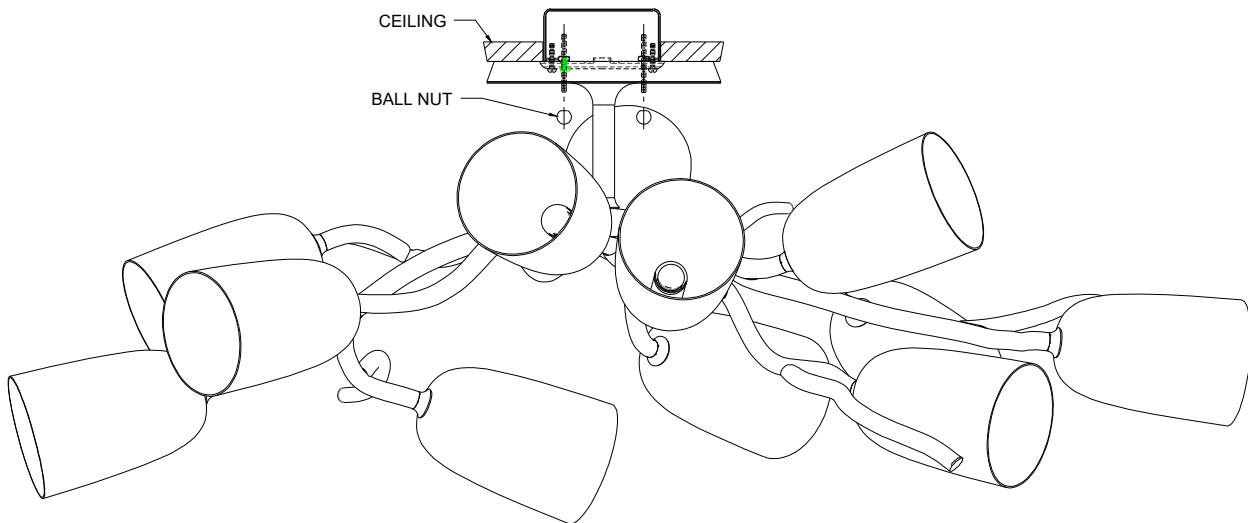

FIGURE-02
5. Pull up & attach the fixture to the heavy duty strap through the studs and secure it with ball nuts. (See Figure-02)